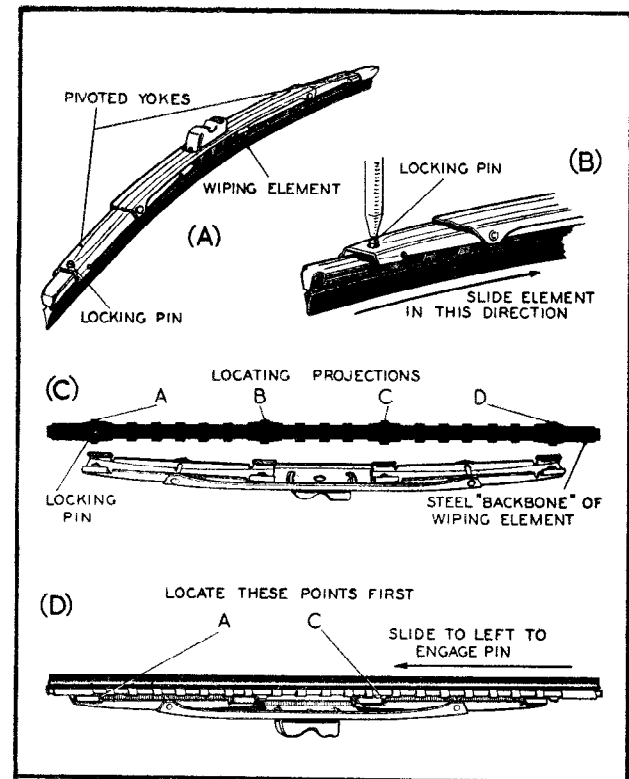

Fig. 8.
- (i) Press down the locking pin and slide the old element in the direction shown in Fig. 8 (B) to free it from the supporting yokes.
- (ii) There are four pairs of locating projections along the 'backbone' of the new wiping element, as shown in Fig. 8 (C). When fitting, first locate the element projections 'A' and 'C', afterwards guiding projections 'B' and 'D' into position and sliding the element to the left, as shown in Fig. 8 (D), until the locking pin is heard to snap into position.